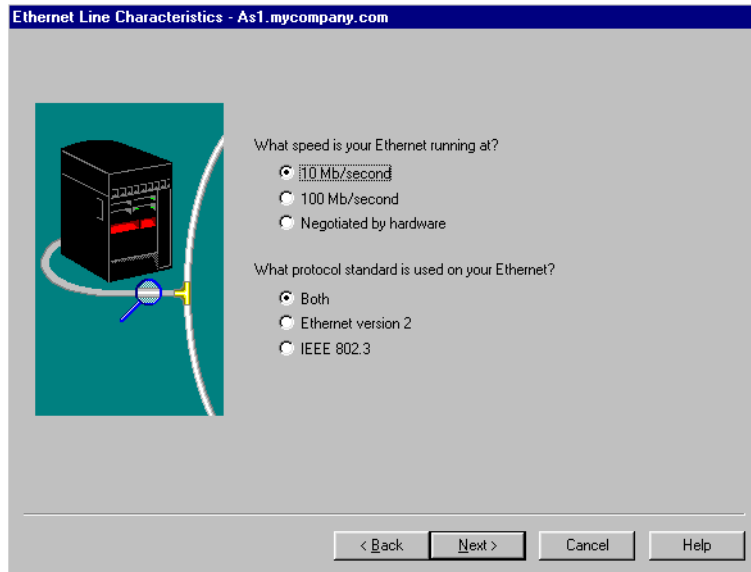

Figure 452. Ethernet Line Characteristics
6. Enter a Name and a Description for the new line. Select the appropriate values for Duplex and Authority based on your environment. The Help button provides additional information to assist you in determining your correct values. The Duplex value is based on the type of network hardware you are using to construct your physical LAN. Click **Next**. The Ethernet Line Characteristics window appears (Figure 452 on page 796).